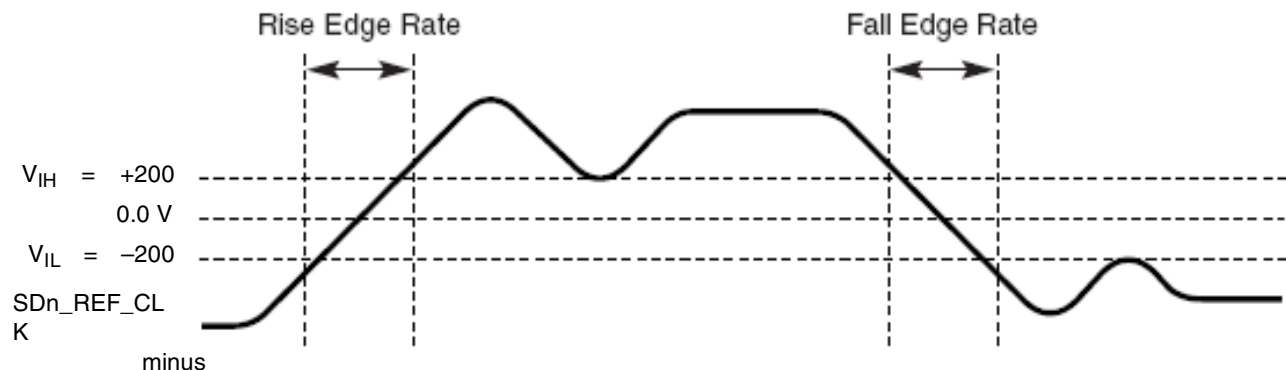

Figure 46. Differential Measurement Points for Rise and Fall Time
The differential waveform is constructed by subtracting the inverting signal (\overline{TXn} , for example) from the non-inverting signal (TXn , for example) within a differential pair. There is only one signal trace curve in a differential waveform. The voltage represented in the differential waveform is not referenced to ground. Refer to Figure 46 as an example for differential waveform.
3. Measured from -200 mV to +200 mV on the differential waveform (derived from $\overline{\text{SDn_REF_CLK}}$ minus SDn_REF_CLK). The signal must be monotonic through the measurement region for rise and fall time. The 400 mV measurement window is centered on the differential zero crossing. See Figure 46.